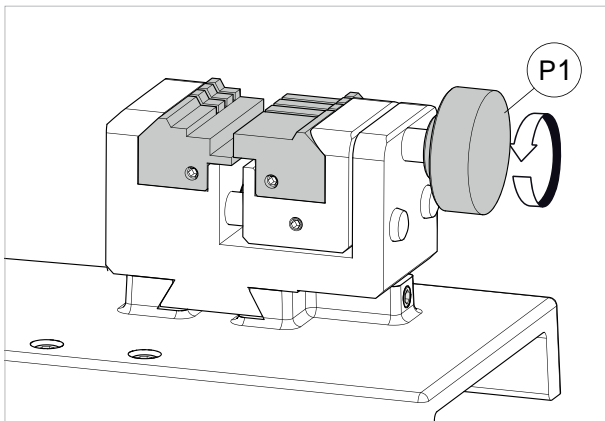

Fig. 30
- 2) Loosen the knob (P1) by a couple of turns (Fig. 30).